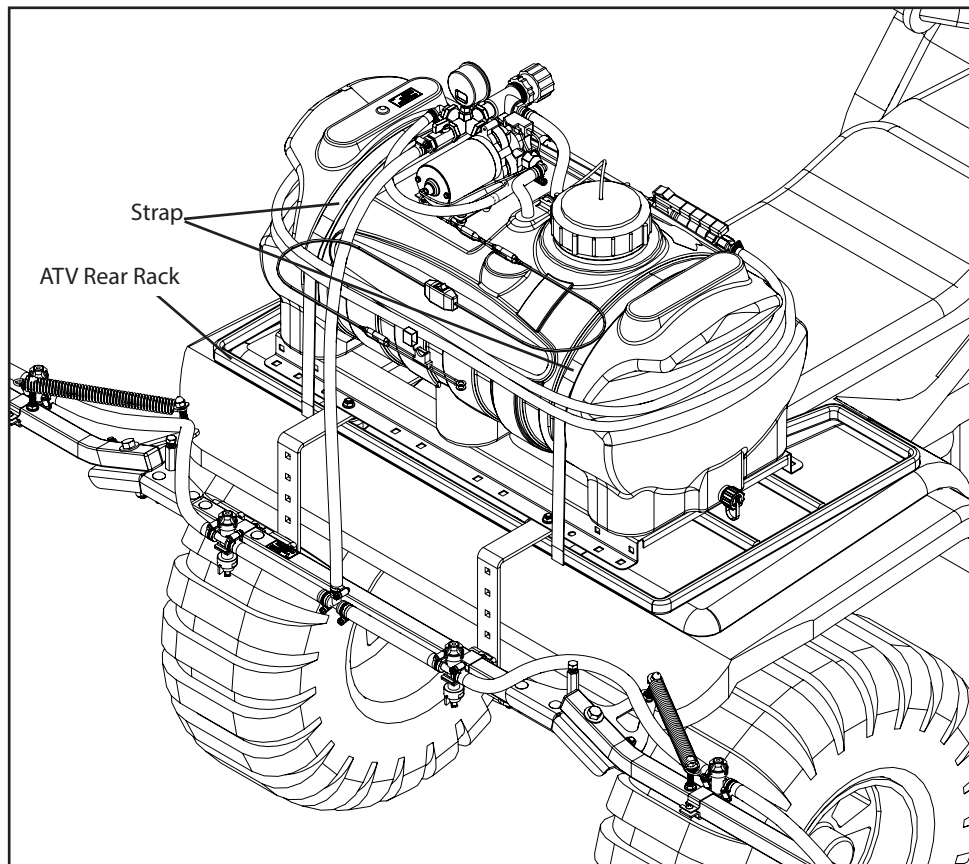

Figure 3: Mounting the sprayer
2. In most cases, the sprayer unit is placed on the rear rack of the ATV and is securely strapped down. In a more permanent situation the sprayer unit could also be bolted down. Regardless of how the sprayer is mounted, it is essential that sprayer is properly secured (Figure 3).